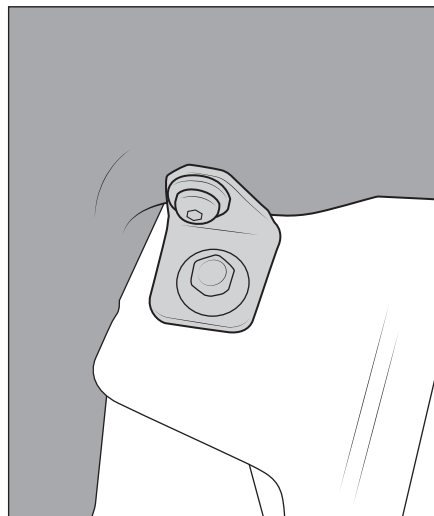

Figure 12
6. Install the front mounting bracket using the front fender bolt. Place bracket over fender hole, loosely reinstall fender bolt, and bolt bracket into snorkel threaded insert with provided M6 bolt and washer (fig. 12). Tighten both until snug, but not fully torqued. Adjust lower snorkel body and brackets so that they sit evenly with fender and cowl, without excessive gaps or any paint contact. Once snorkel is properly positioned, tighten front M6 bolt going into snorkel body to **100 in-lb.**